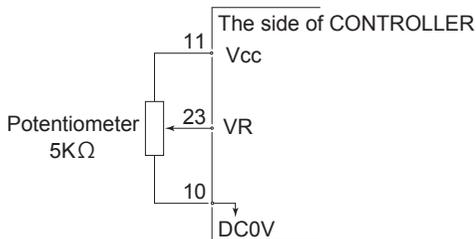
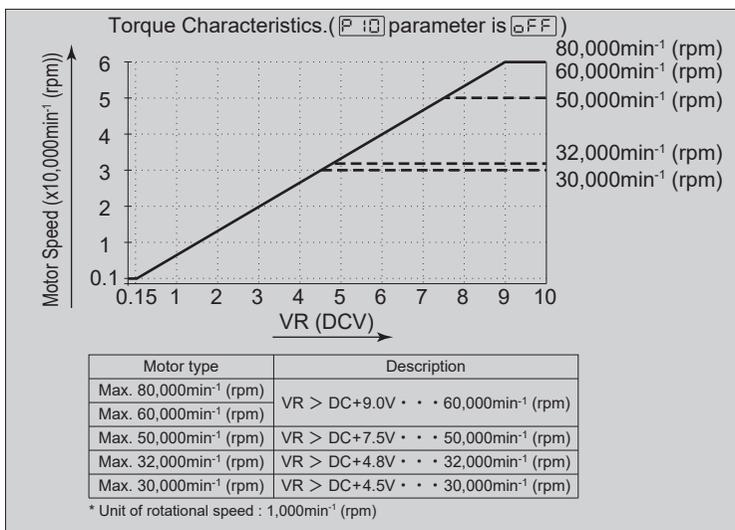

Fig. 37
Fig. 39
④ Motor Speed Control Signal
Rotation Speed can be selected by, applying analog voltage to the " Motor Speed Control Voltage (VR) ". Refer to Fig. 37, 38 for connections. Refer to Fig. 39 to 42 for the relationship between Motor Speed and " Motor Speed Control Voltage (VR) ".